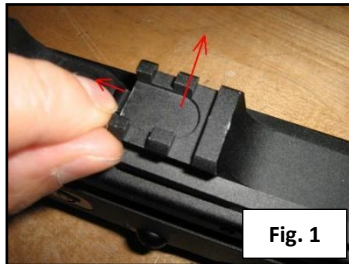

Fig. 1
- A. Open the door to the CO2 chamber by releasing the spring lock away from the door and lifting the door away from the marker body. (Fig. 1)